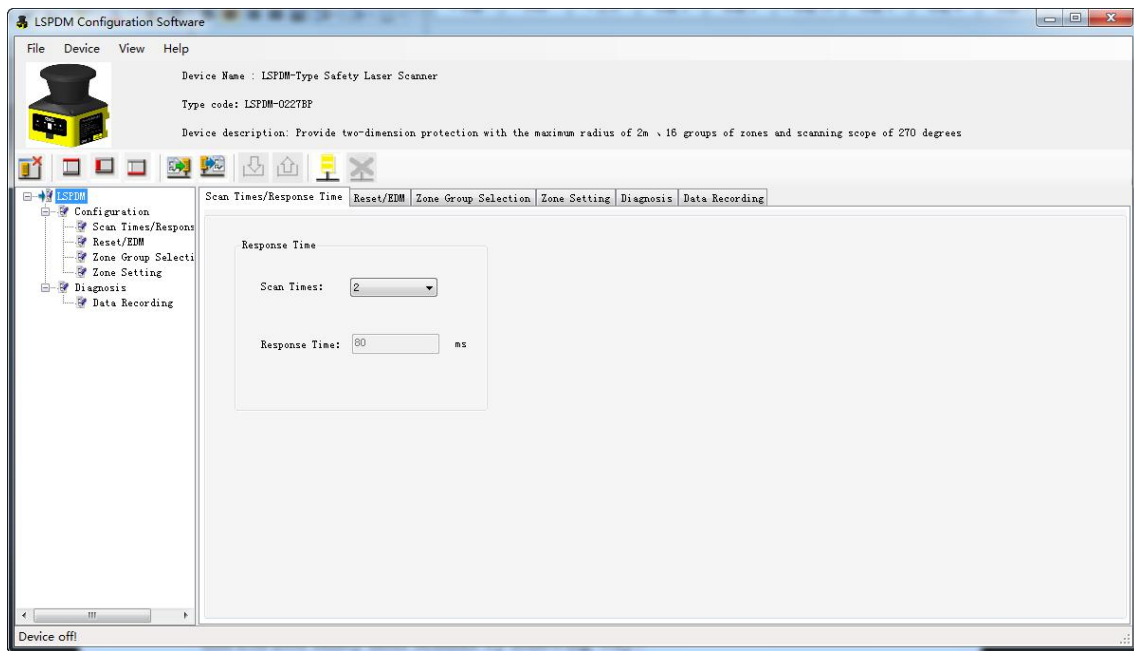

Fig 3.1.12 Main user interface
(3) Program will enter into user interface window as shown in Fig 3.1.12.